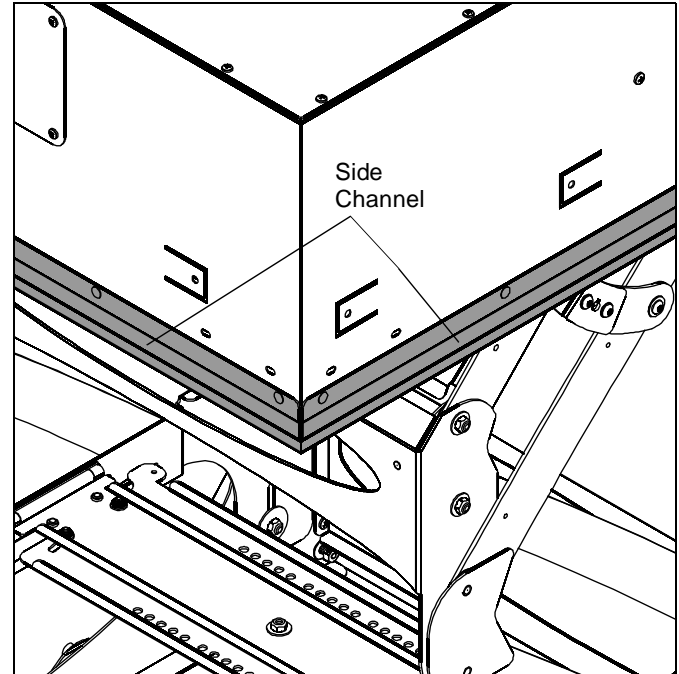

Figure 7
8. Insert the ceiling grid edge surrounding the SL236SPi into the side channel of the SL236SPi. (See Figure 7)